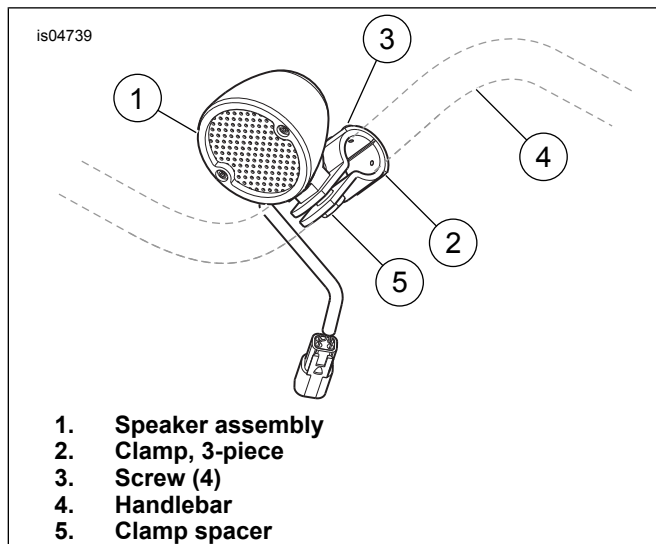

Figure 4. Speaker - FLHP and FXDP Models
- See Figure 4. Remove the button head screws (3) that hold the 3-piece clamp (2) together. Place the clamp around the right side rise section of the handlebar (4) as shown.
- Tighten the clamp spacer (5) securely.